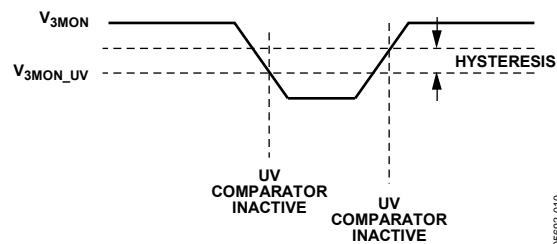
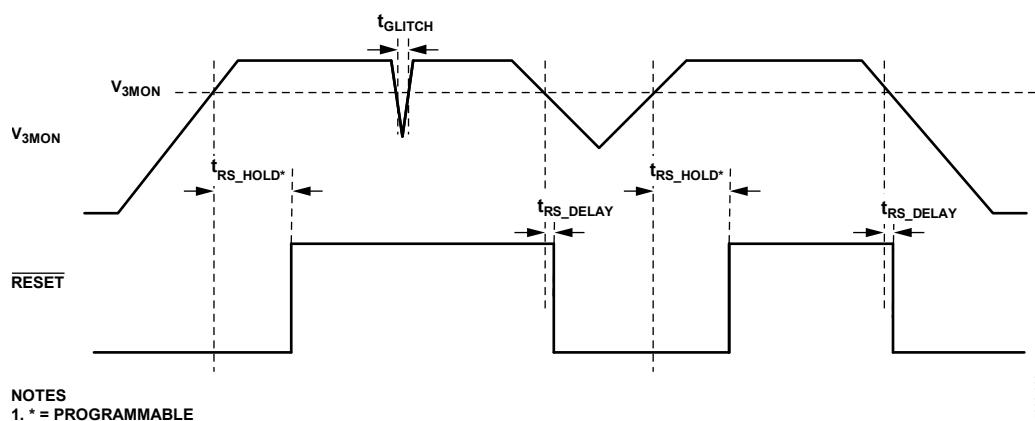

Figure 9. V_{3MON} Hysteresis
Figure 10. V_{3MON} , \overline{RESET} Timing Diagrams
The V_{3MON} pin is monitored by a comparator to detect an undervoltage condition. It is designed with 1.5% hysteresis. When the V_{3MON} input drops below the programmed UV threshold, the comparator becomes active immediately, indicating that a UV condition has occurred. Due to hysteresis, the V_{3MON} input must be brought above the programmed UV threshold by 1.5% before the comparator becomes inactive, indicating that the UV condition has gone away (see Figure 9).
The V_{3MON} and \overline{RESET} timing diagrams are shown in Figure 10. The range of thresholds is shown in Table 6 and the programming code for the selected threshold is found in Table 7. The default monitoring threshold is 2.93 V. The range of reset hold times is shown in Table 8 and the programming code of the selected timing is found in Table 9. The default \overline{RESET} hold time is 200 ms.
- When the external monitoring processor cannot issue the necessary WDI signal and advanced WDI mode is selected (see Figure 10 and Figure 9)
- When $V_{3\text{MON}}$ drops below the threshold (see Figure 10)